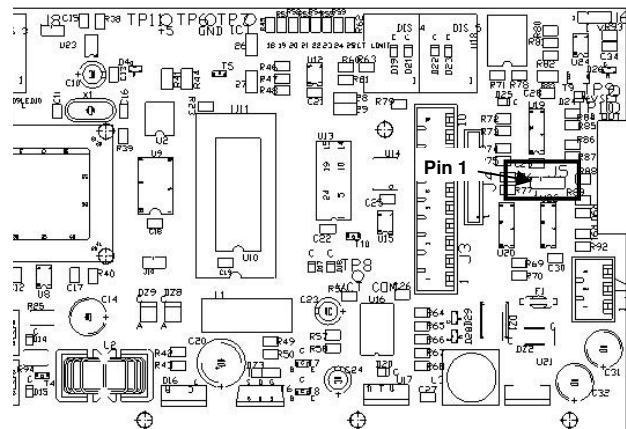

Figure 17: PC Mainboard Jumper J5 Location
- Set the main PC board sink/source jumper (J5) for the rest of the digital I/O signals. The location of this jumper is shown in Figure 17. Set the jumper the correct pins for the desired input type as listed in the following table.